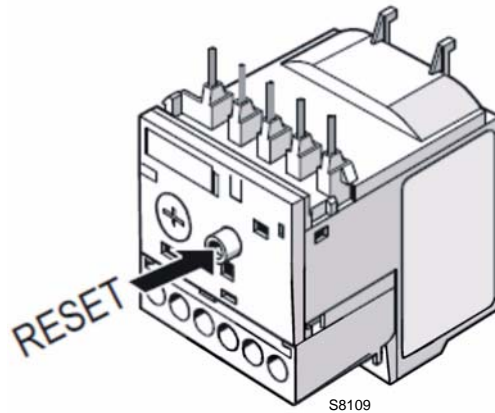

Fig. 20
- To reset, in the case of an intervention of the thermal relay, press the button "RESET" (Fig. 20).